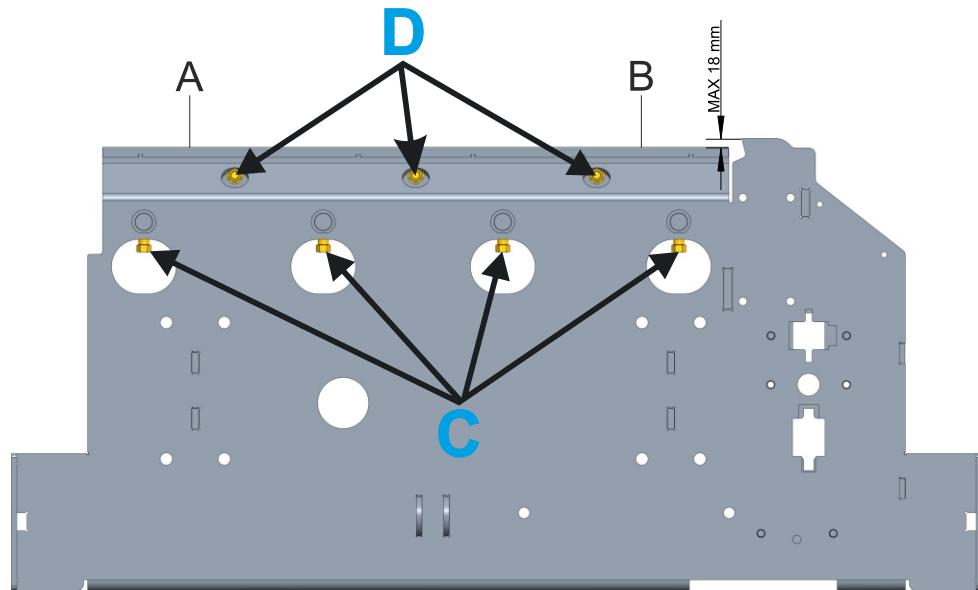

FIG. 5-4
See Figure 5-4 To adjust the bed rail, loosen the locking bolts (D). Then, using the adjustment bolts (C), adjust the bed rail so the measurements A and B are the same. The distance between the bed rail and cant stop should not be larger than 18mm. When the adjustment is done, tighten the locking nuts.